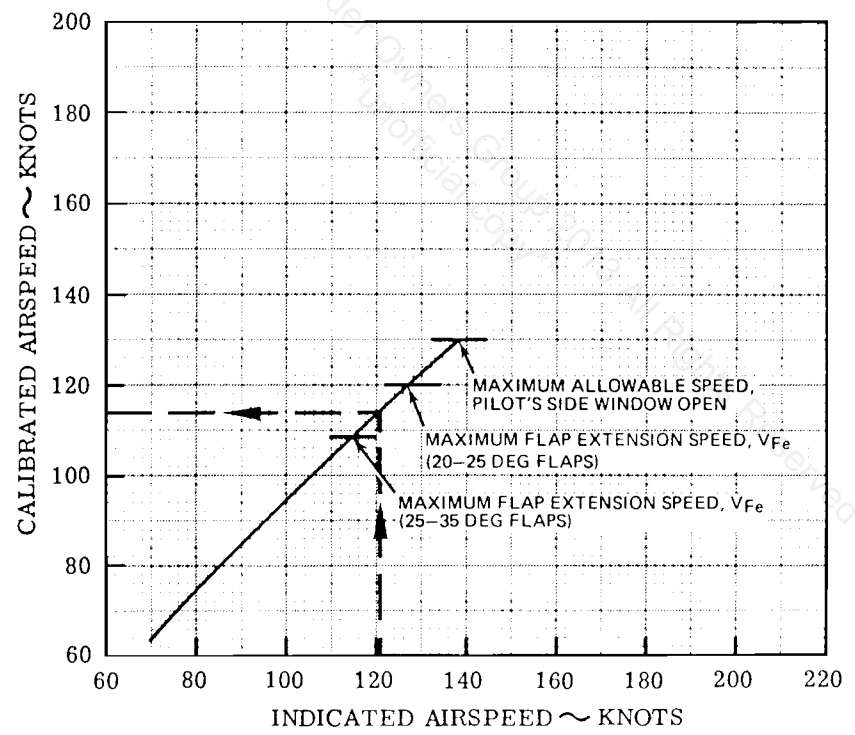

Figure 5-3.
The variation of Calibrated Airspeed with Indicated Airspeed is shown in Figure 5-3 for Takeoff, Cruise, and Landing Configurations. It applies only when the Alternate Static Pressure Source has been selected. Only the Pilot's side window may be open.
3. A conveniently located plasticized card is provided in the cockpit, which tabulates the Airspeed Calibration information presented in Figure 5-3.